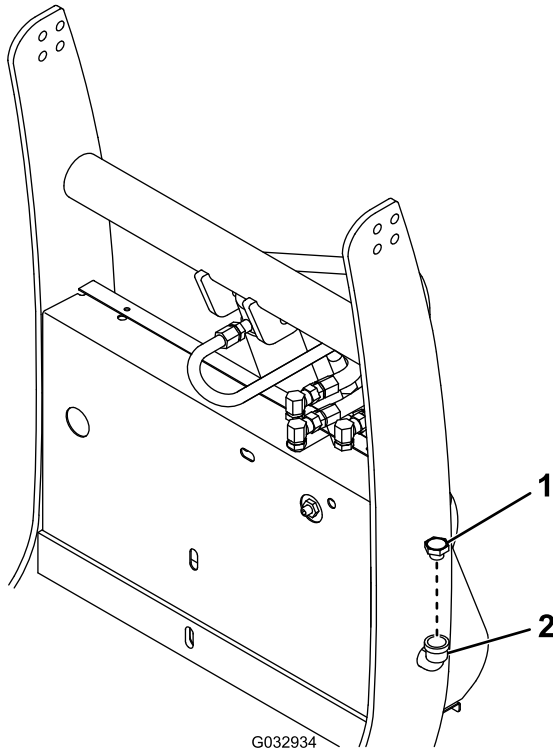

Figure 33
2. Clean the area around the fill cap (Figure 33).
3. Remove the fill cap from the hydraulic reservoir (Figure 33).